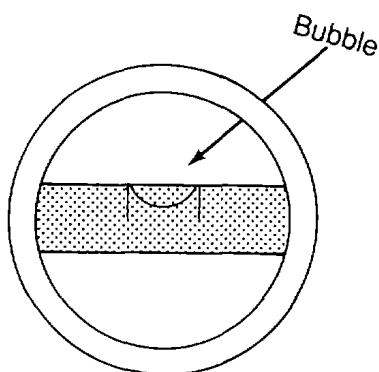

Figure 3-5. Level Condition
b. *Use.* To use a level, simply place it on the surface to be checked. Inspect the vial which is nearest to the horizontal. If the surface is level, the bubble will be situated between the two etched lines on the vial. A level condition is shown in figure 3-5.